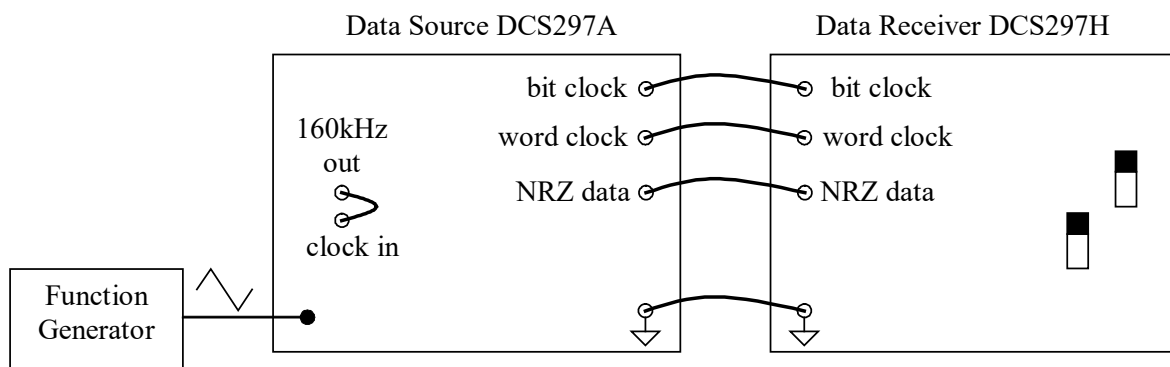

Figure E4.2 Receiving digital words.
- Add the data **receiver** module **DCS297H**, by placing it to the right of data source. Connect the two together and set the two switches on the data receiver as shown in Figure E4.2.